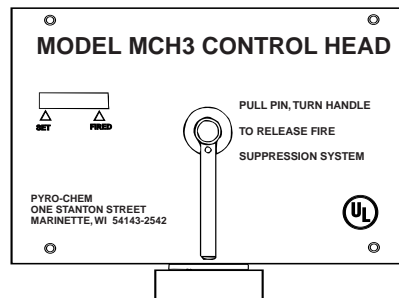

Figure 2-5. Mechanical Control Head.
- ▶ actuate a maximum of five (5) cylinders. See **Figure 2-5**.